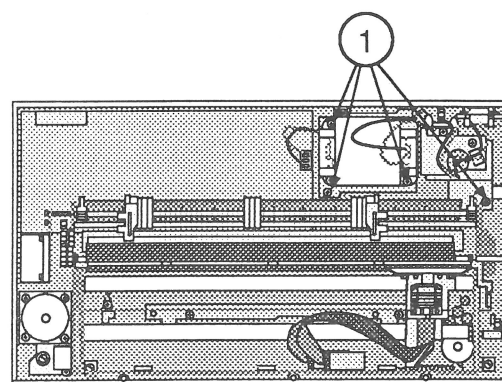

FIGURE 31
5. Remove the four Phillips screws (Figure 31, #1) that secure the transformer/filter board assembly bracket to the base of the printer.